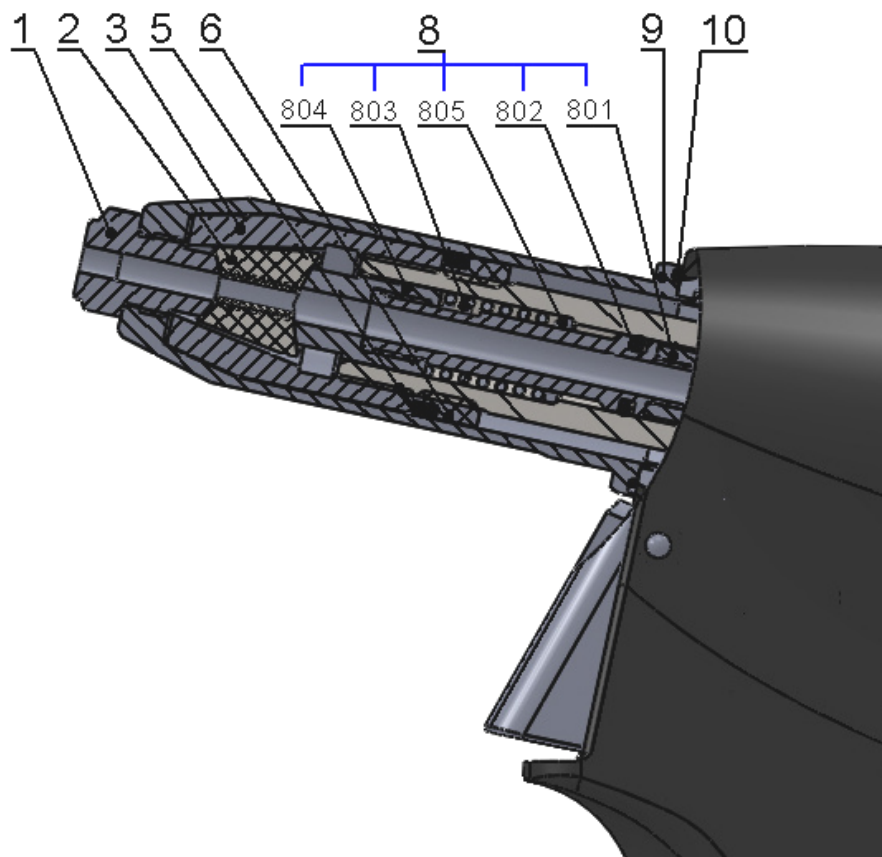
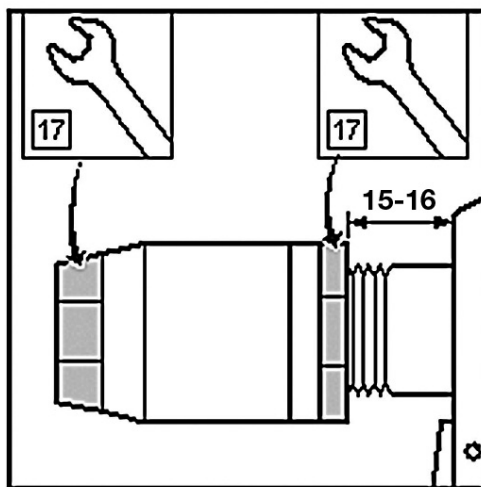

Fig.2
Fig.3
Disconnect the tool from the source of compressed air, unscrew the front nozzle /fig.2 - pos.9/ by means of a spanner no.23, set the spanner no.17(15) onto the clamping sleeve /fig.2 - pos.3/, set the spanner no.17 on the backnut /fig.2 - pos.6/ and loosen. Unscrew the clamping sleeve, replace the jaws /fig.2 - pos.2/ and conduit-suction complet /fig.2 - pos.8/. All used threads are clockwise. Clean the dismantled parts thoroughly and check them visually, especially the following:
- 1) Jaws /fig.2 – pos.2/ - if worn or damaged, replace it, if dirty, clean it with a wire brush.
- 2) Nose-piece /fig.2 – pos.1/ - for wear of functional surfaces of the taper.
- 3) Conduit-suction complet /fig.2 - pos.8/ - inspect parts of the assembly, jaw pusher /fig.2 - pos.804/, spring /fig.2 - pos.803/, washer of spring /fig.2 - pos.805/, O - ring /fig.2 - pos.802/ and conduit-suction /fig.2 - pos.801/ - if damaged or worn, replace it with a new one.
- 4) Front nozzle /fig.2 - pos.9/ - check for damage of the internal surface ($\varnothing 20$) .
- 5) Scraper ring /fig.2 - pos.5/ - if damaged or worn, replace it with a new one.
Mount the parts (see par. disassembly) in a reverse order. On the outer surface of the jaws /fig.2 – pos.2/ apply a drop of lubricating oil (we recommend hydraulic oil HYSPIN AWHM 32 CASTROL), apply thin layer of plastic lubricant MOGUL LV 2-3 to the conduit-suction complet /fig.2 – pos.8/. Basic set-up of the jaws is performed as in fig. 3.